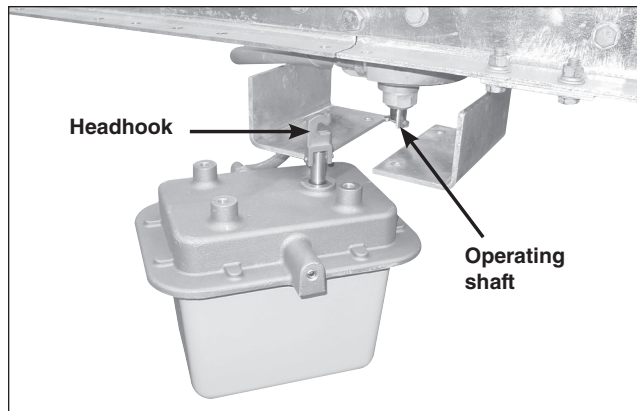
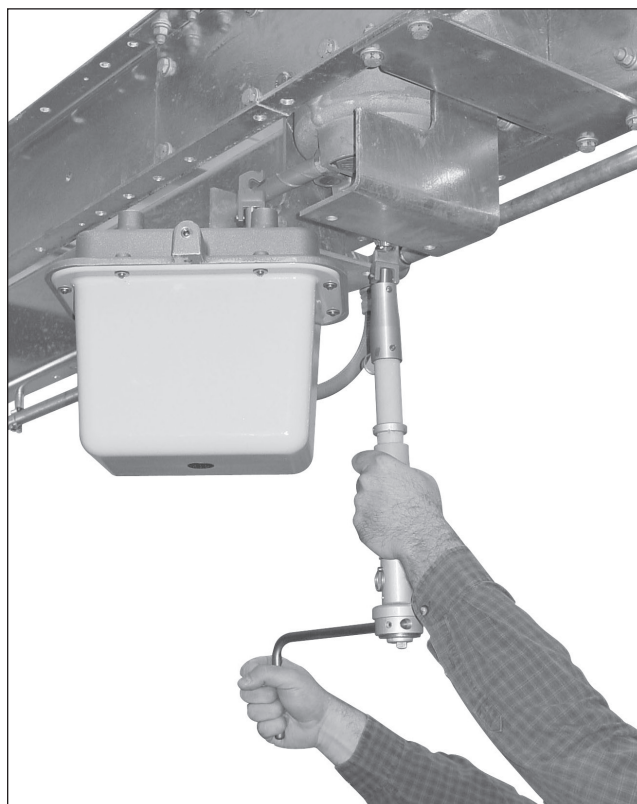

Figure 26. Disengaging motor operator to provide clearance for charging tool.
Figure 27. Manually closing and charging pole-unit of motor operator-equipped Trans-Rupter II Transformer Protector.
STEP 22. Push upward on the motor operator to disengage the operator from the operating shaft. See Figure 25 and Figure 26 on page 18.
STEP 23. Temporarily attach the motor operator to one of the mounting brackets with one of the cap screws removed in Step 20, as shown in Figure 26. Make sure the motor operator is pivoted away from the operating shaft so there is sufficient clearance to engage the charging tool. See Figure 27.